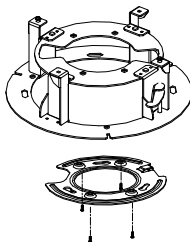

Figure 2-34 Fix the Base Plate to In-ceiling Bracket
2. Fix the base plate onto the in-ceiling bracket with the four screws in the package (supplied). Make sure that the cable holes of the base plate are aligned to the cable holes of the bracket, as shown in Figure 2-34.